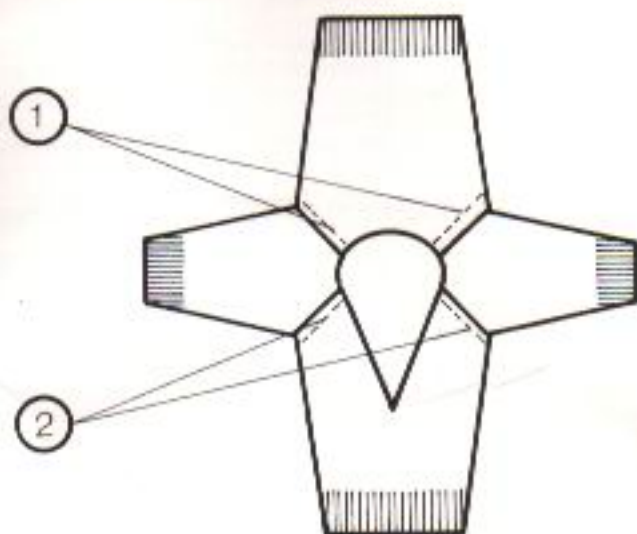

FIGURE 3
- A) **WITH RIGHT SIDES TOGETHER AND STITCH BY STITCH, ATTACH THE SLEEVES TO FRONT AND BACK (FIGURE 3 No 1 & 2)**